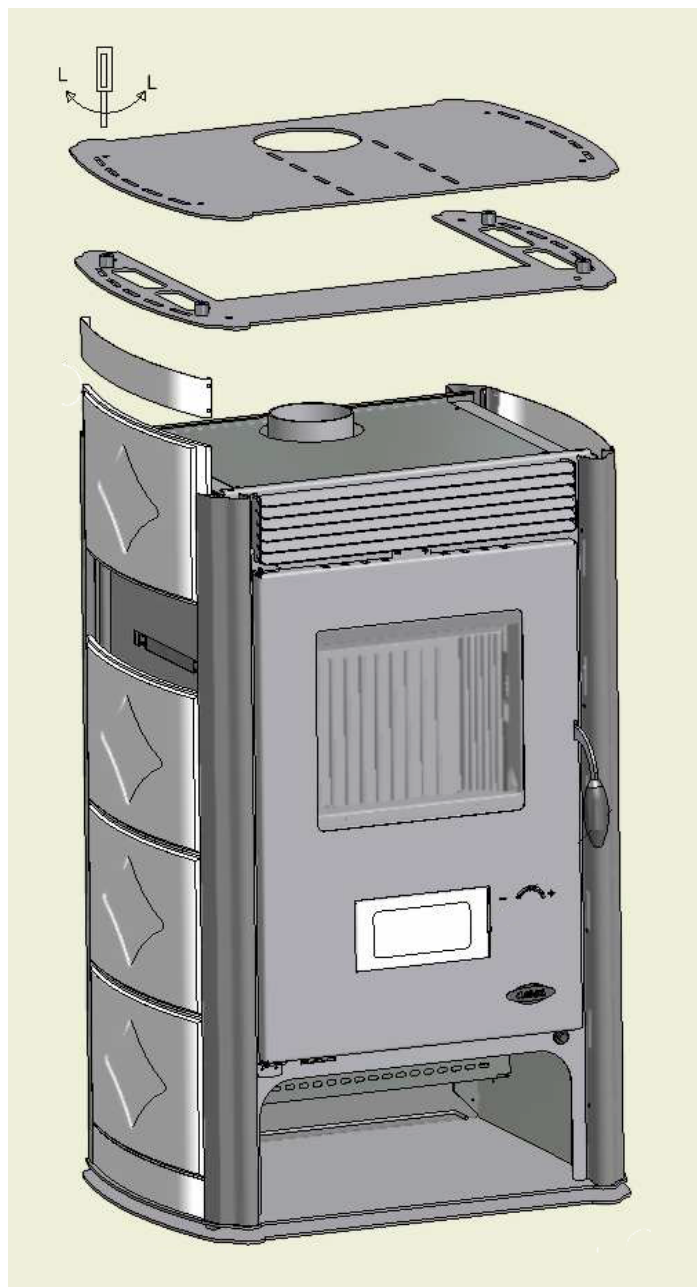

Fig. 14 - Aurora majolicas assembly
LEGEND	Fig. 14 page 16
- It is obligatory to install the stove away from walls and/or pieces of furniture, with a minimum air flow of 500 mm on the sides and 500 mm on the back, to enable an efficient appliance cooling and a good distribution of heat in the room (see **Fig. 14 page 16**).
- For safety fire regulations the distances from flammable or sensible to heat objects (sofas, pieces of furniture, wooden covering, etc...) must be respected, as described in **Fig. 14 page 16**.
- If the walls are made up of flammable materials, check the safety distances (see **Fig. 14 page 16**).